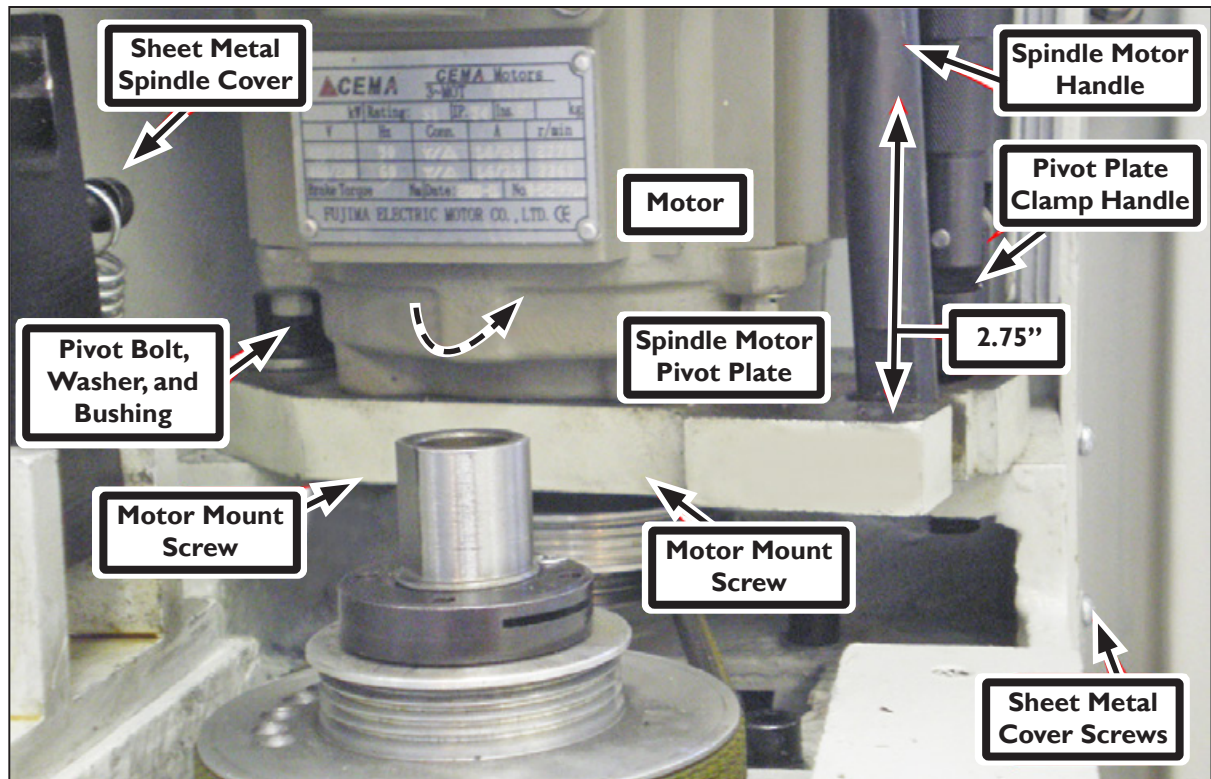

Figure 5
3. Remove the Pivot Plate Clamp Handle (see **Figure 5**) and discard.
5. Make note of the position of the wires, and then disconnect the motor and remove the Pivot Bolt (see **Figure 5**); discard.
NOTE: Keep the Pivot Washer and the Pivot Bushing (see **Figure 5**).
6. Remove the Motor and the Spindle Motor Pivot Plate assembly (see **Figure 5**).
7. Using a hack saw or cut-off saw, shorten the Spindle Motor Handle to 2.75 inches (see **Figure 5**).
8. Remove the four Motor Mount Screws (see **Figure 5**); set aside.
9. Rotate the Motor 90° counterclockwise (relative to the Spindle Motor Pivot Plate) and reinstall the four Motor Mount Screws set aside earlier (see **Figure 5**).
- Use one Hex Bolt to replace the discarded Pivot Bolt; reinstall the Pivot Bushing and Pivot Washer (see **Figure 5**).
- Use one Hex Bolt and one Flat Washer in place of the Pivot Plate Clamp Handle (see **Figure 5**).